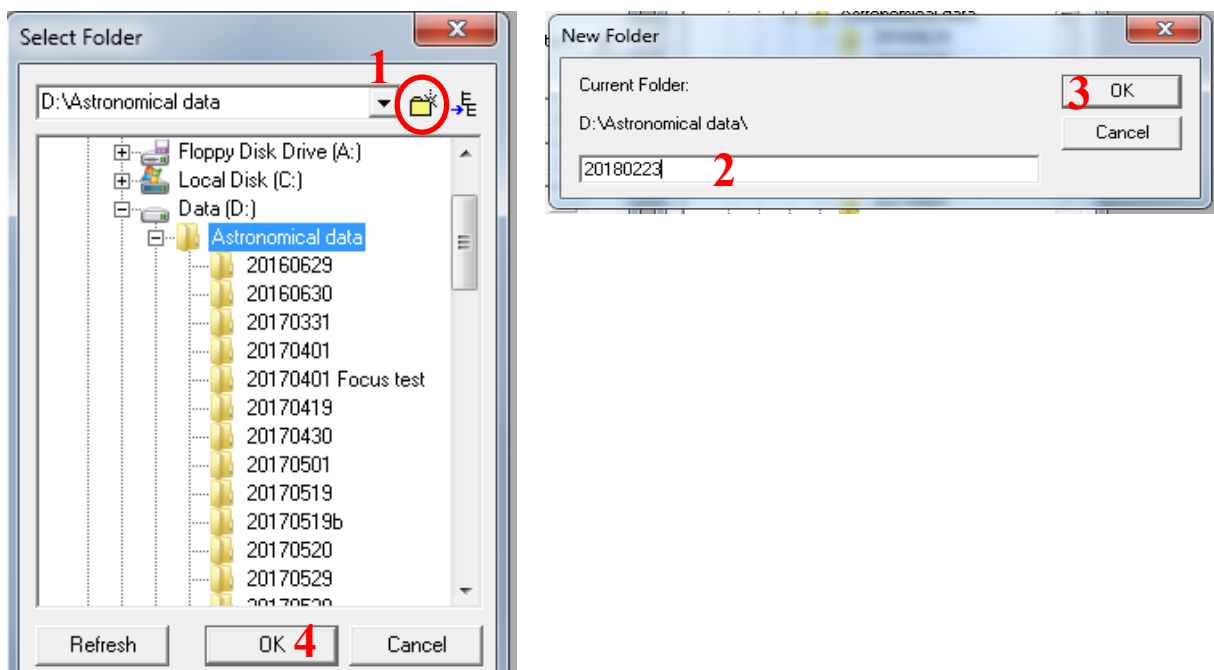

Fig. 5.12. Left: Selecting the directory to create a folder for autosaving sequence images. Right: Naming the folder in which the images will be stored.
- Click on the “Options” (No 10) and select “Set image Save Path” (No 11). A browsing window opens (Fig. 5.12 left)
- Browse to a folder or create a new one (Fig. 5.12 left No 1) for saving the images. It is highly recommended to create a new folder with name “YYYYMMDD” in the directory “D:\Astronomical data” (No 2). Once the folder is created, press “OK” (No 3), and then again “OK” (No 4) to close the window.